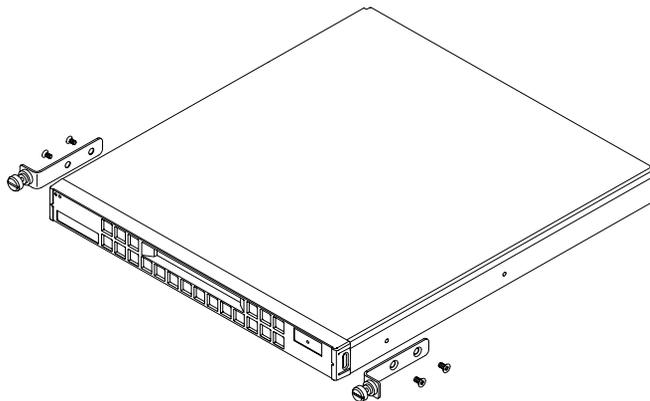

FIGURE B-10 Re-installing the Rack Mount Brackets
7. Re-install the rack mount brackets if you removed them initially (see FIGURE B-10).